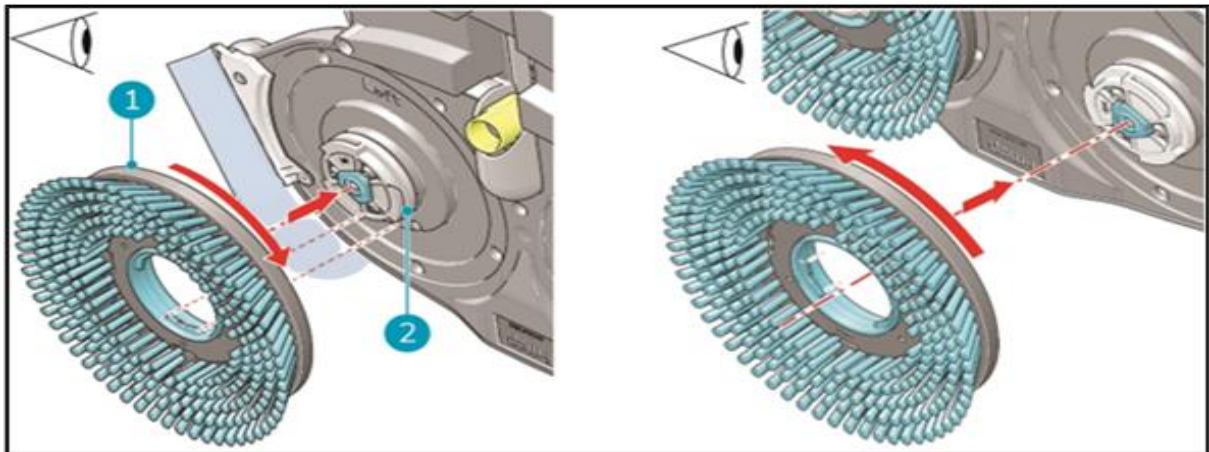

Figure 34
3. Using your other hand to turn the left brush (Figure 34, pos 1) anticlockwise until you feel resistance or see the motor disk turning as well.